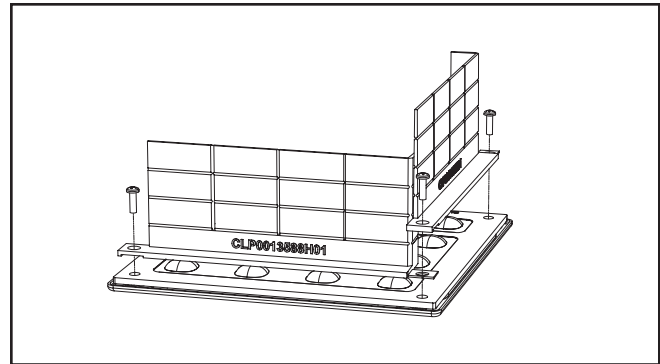

Figure 3.
4. Where multiple shields are needed on the same light square, ensure the tabs overlap correctly for a secure fit. (FIG 3)